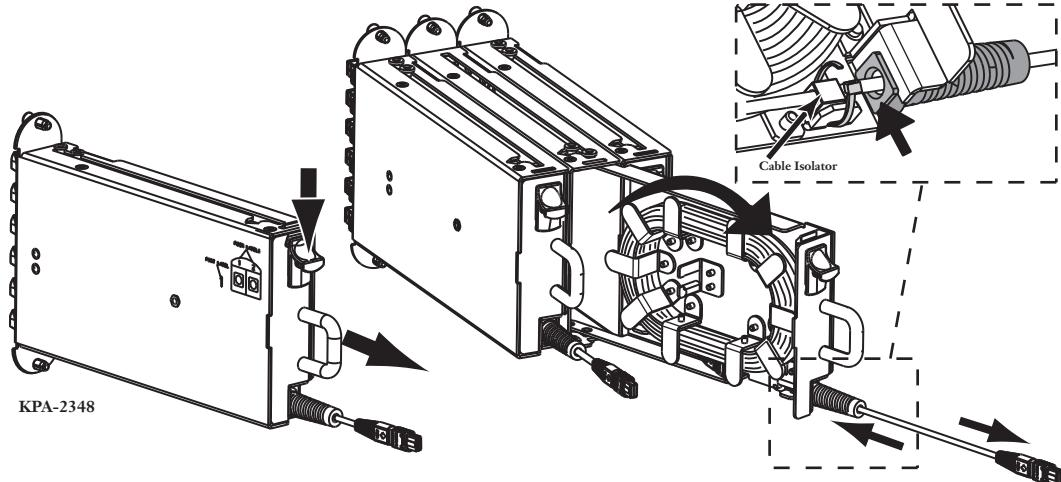

Figure 7
- Step 5:** If there is no external reel and all of the cable is stored inside the ITM, it is necessary to press down on the latch and pull on the handle to open the tray and access the cable for deployment (Figure 7).
- Step 8:** Slide the boot back to the ITM. Align the groove in the boot with the cutout in the rear of the ITM. Push the boot into the cutout until it seats completely (Figure 7).